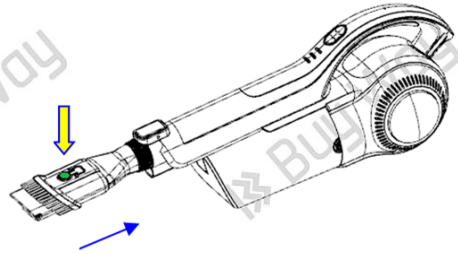

Fig. 12
- Use the oval brush without bristles (press the small button round button to move the bristles head up until) when you want to clean sofas' pillows, mattresses, etc., (see fig. 12).